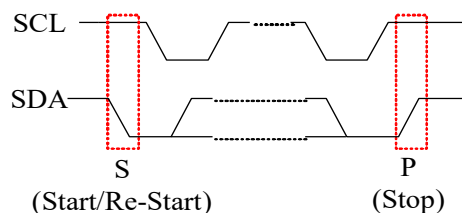

Figure 3-16 Start & Stop Timing
- 3) Start/Re-Start: SDA change from HIGH to LOW while SCL is HIGH, See Figure 3-16;
- 4) Stop: SDA change from LOW to HIGH while SCL is HIGH, see Figure 3-16;